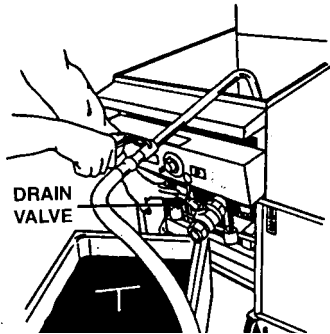

Figure 2.3: Drain fryer
3. Close fryer drain valve (See Figure 2.3).